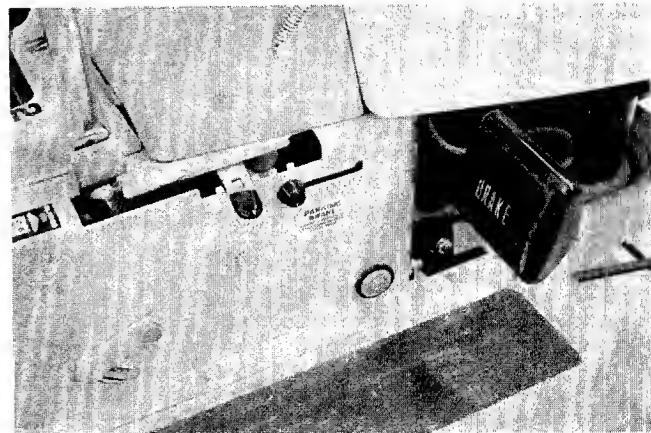

FIGURE 15.
- h. **Brake.** The brake pedal is located on the right hand side of the mower and is operated by depressing it with your right foot. See figure 15.